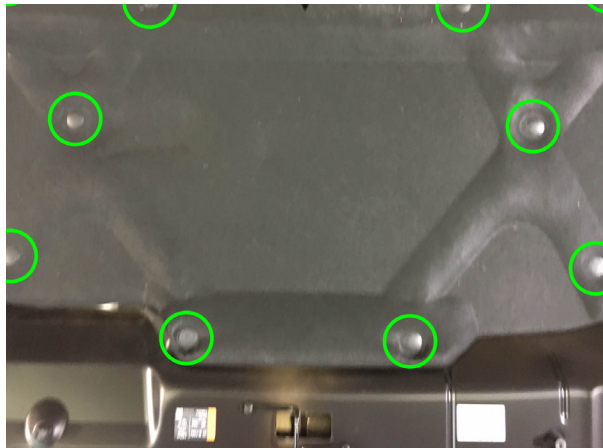

Figure 8
3. Remove hood liner by using plastic pry tool to pull out plastic push studs. (Figure 8)